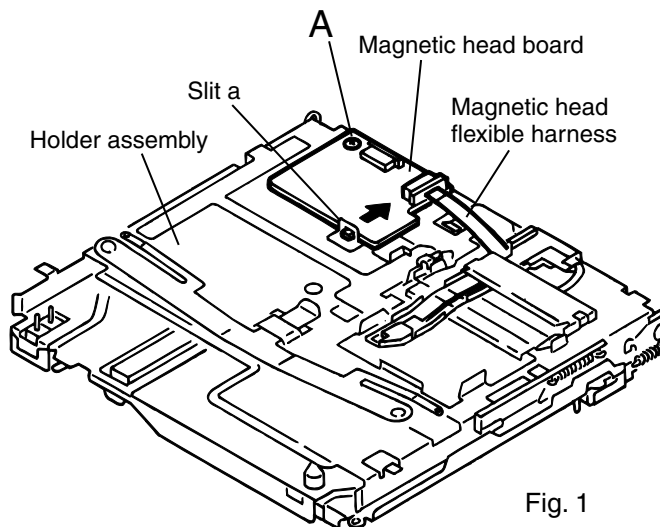

Fig. 1
■ Removing the MD door assembly and the bottom cover (See Fig. 1 to 6)
ATTENTION: When reattaching the bottom cover, fit the hole knobs **b** to the hold switches on the main board correctly (See Fig.1 and 2).
(See Fig.1 and 2)